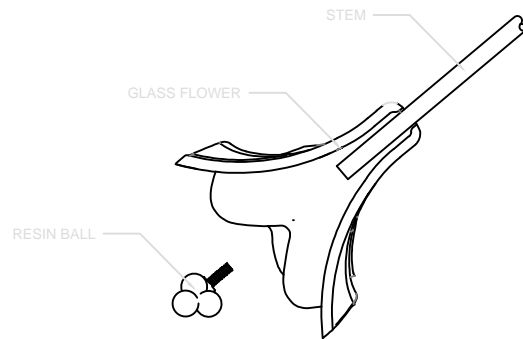

FIGURE-07
14. Insert the frosted glass flower to stems labeled with frosted and lock them using the resin ball. (See Figure -07)
15. Insert the bubbles glass flower to stems labeled with bubbles and lock them using the resin ball. (See Figure -07)
16. Insert the clear glass flower to the unlabeled stems and lock them using the resin ball. (See Figure -07)